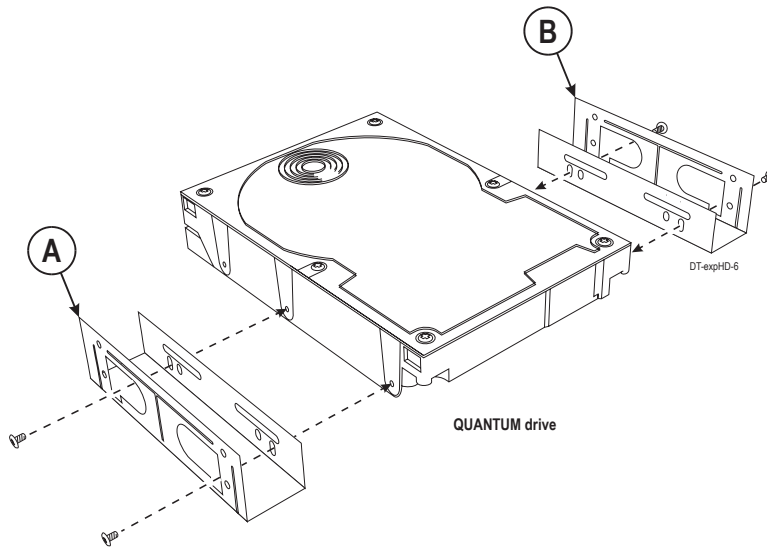

Figure 4
11. Secure the two U brackets (labeled as A and B on Figure 4) on the expansion hard drive as shown in Figure 4.